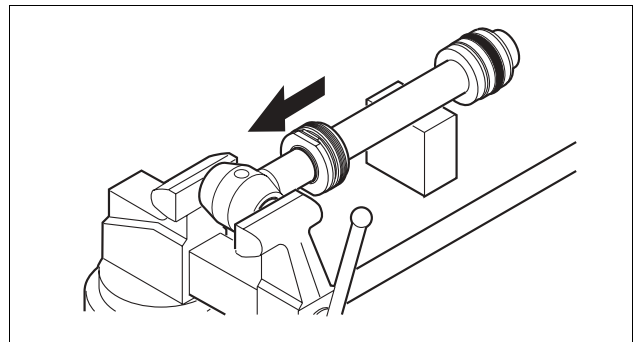

Fig. 31 Push the gland over the piston rod
- 23. Push the gland over the piston rod. *See Fig. 31.*